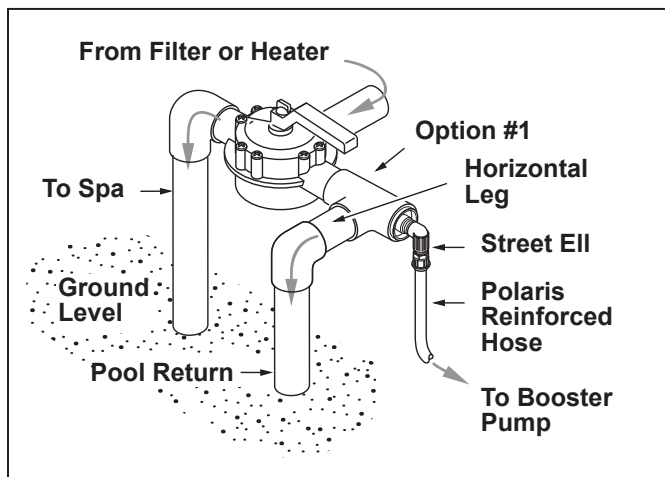

Figure 3. Preferred Plumbing Configuration
- Use rigid PVC pipe with a minimum diameter of 3/4", 1-1/2" is recommended, for the dedicated return line. Flexible PVC piping is not recommended for the dedicated pool return line underground as it can be damaged by expansion and movement caused by the surge of pump pressure. Refer to Figures 3 and 4.